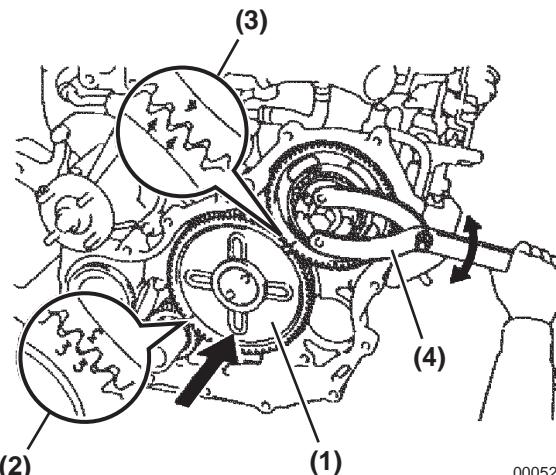

Figure 5-213
9. Align timing marks "3" and "4" of the idler gear (**Figure 5-213, (1)**) to the corresponding timing marks "3" (**Figure 5-213, (2)**) of the crankshaft timing gear and timing mark "4" (**Figure 5-213, (3)**) of the fuel injection pump drive gear by turning the fuel injection pump drive gear using a suitable tool (**Figure 5-213, (4)**).